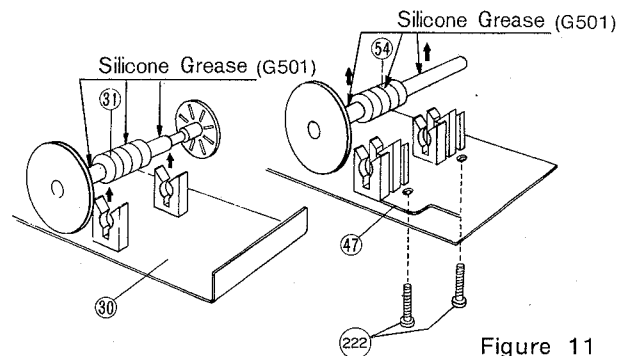

Figure 11
**(F) REMOVE THE WORM GEARS, (31) AND (54), AS FOLLOWS:**
1. Worm gears have been press-insert mounted. When worm gears are lifted, make sure to apply an equal force to each connecting parts (Fig. 11).
2. To lift the Worm Gear (54) remove the two Screws (222).